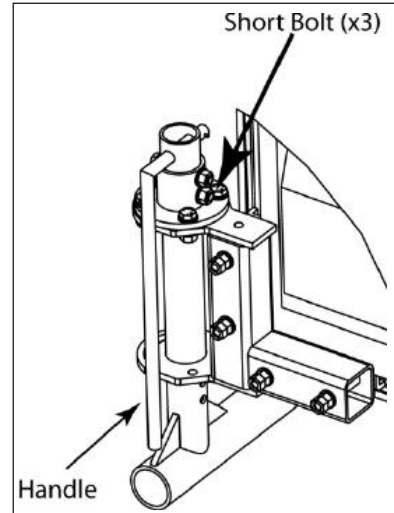

Figure 40: Webcam Arm Bolts
1. Remove the three short bolts from the elbow assembly. Refer to **Figure 40**.